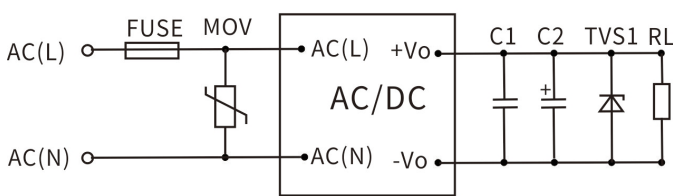
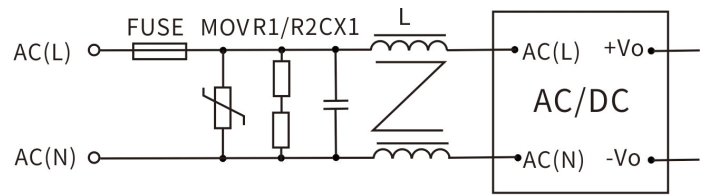

图1
图2
Figure 1 shows a typical application circuit.
Figure 2 shows an EMC application circuit
5. For general applications, customers should use the circuit recommended in Figure 1. If EMC requirements apply, please use the circuit recommended in Figure 2. The specific recommended values for Figure 2 are as follows: